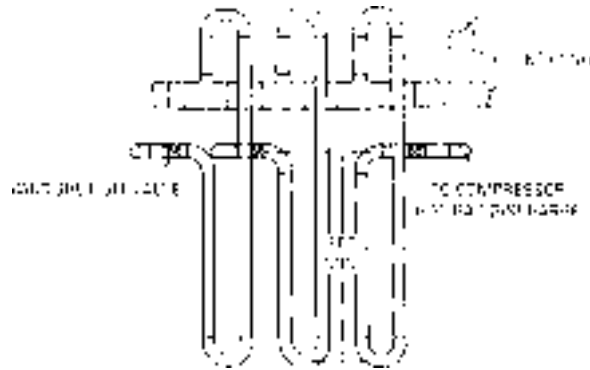

FIGURE 4.7 One way to connect hot-gas discharge lines.
- The compressor hot-gas discharge lines should be connected as shown in Figure 4.7.